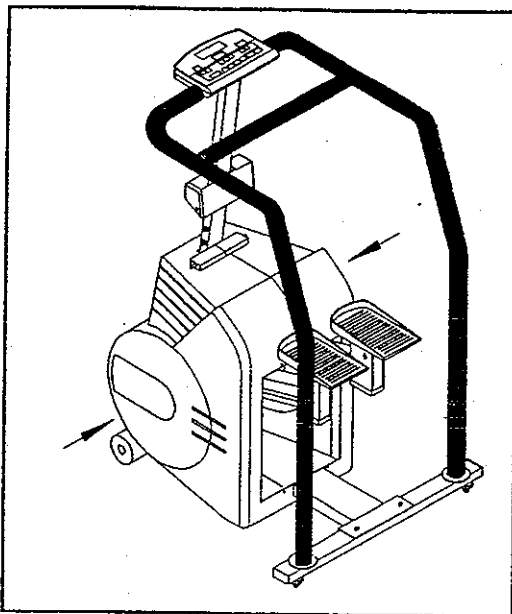

Fig. 18
6. Replace the main shroud and tighten with screws (see Fig. 18 & 19).